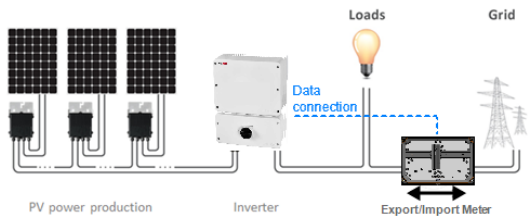

Figure 6: Typical installation with export/import meter
2. Open one of the the *bottom* conduit drill guides for AC wiring (see *Figure 6* below), taking care not to interfere with any of the internal components. A Unibit drill may be used. The rest of the drill guides (located at the bottom, back and sides of the enclosure, each with two sizes: $\frac{3}{4}$ " and 1") should remain sealed.